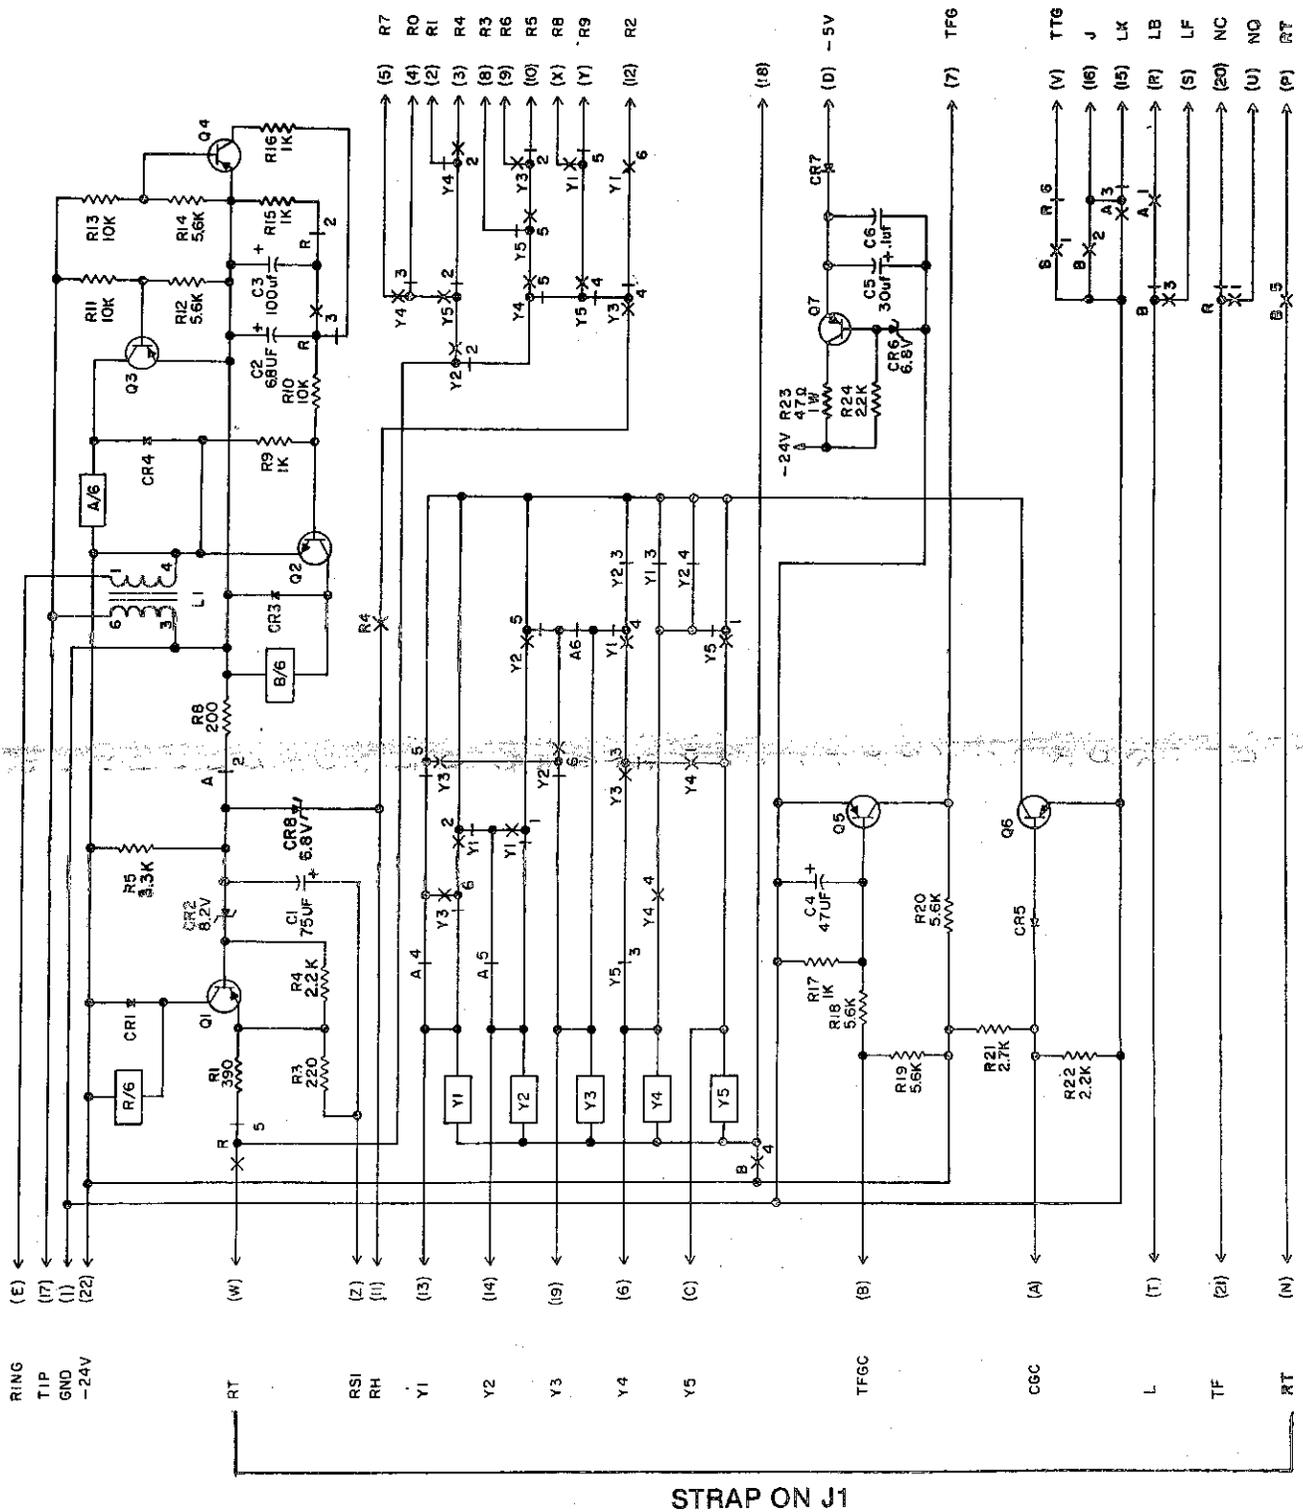

Fig. 4 - Circuit Diagram, K160C KTU
**2.04** K160C, Dial Intercom Card. One is used per system to permit dial selection of nine signal paths. (This KSU is a modified version of the K160A KTU as used in the 76A Key Telephone System.) Dimensions in inches are approximately 5 3/8" W x 5 5/8" L x 1¼" D. (22 dual dual contacts.) See fig. 4.